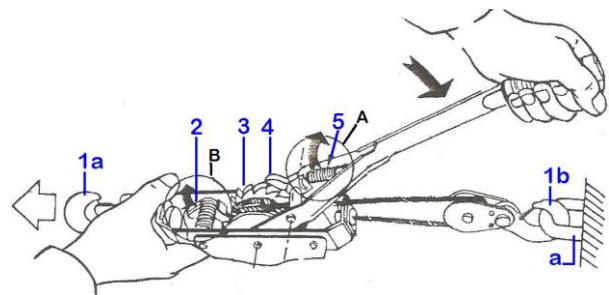

Fig.2
4.2- Pulling out the cable Fig.2)